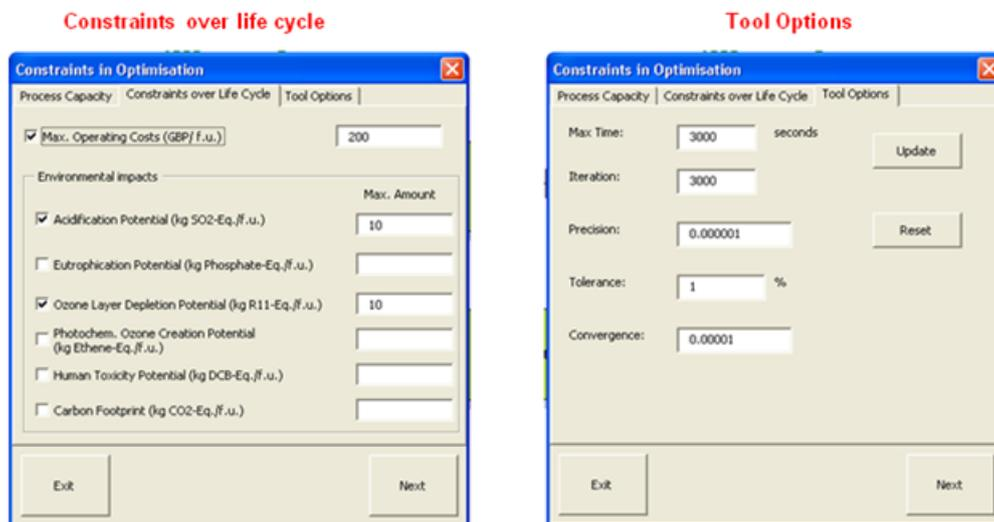

Figure 6b The form for defining optimisation constraint(s)
- *Constraints over life cycle* (Figure 6b):
- *Tool Options* (Figure 6b): The user may alter the information for each edit box on this tab and click 'Update'. The description for each option is detailed in *Appendix A*.